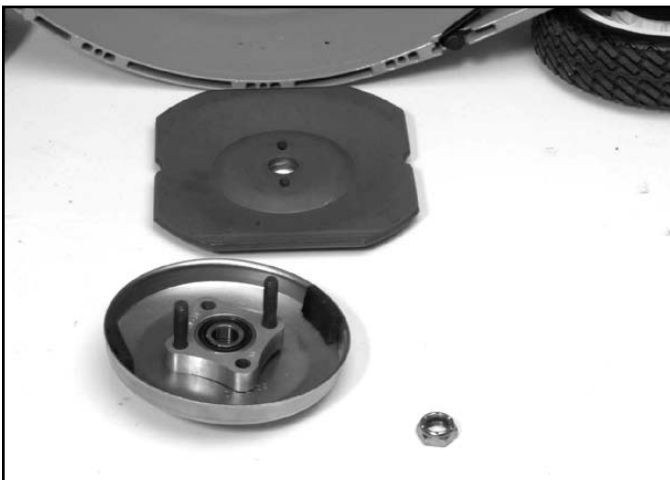

Fig 191
7. Remove the hub assembly and brake drum. The flywheel is pressed onto a taper on the crankshaft. It might require a tap with a hammer to loosen (Fig. 191).